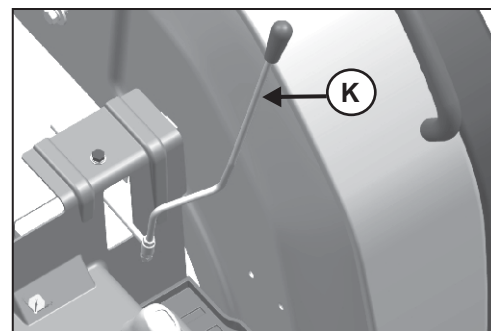

Fig. 4.18
4.18 DCV Lever (Optional feature), Fig. 4.18